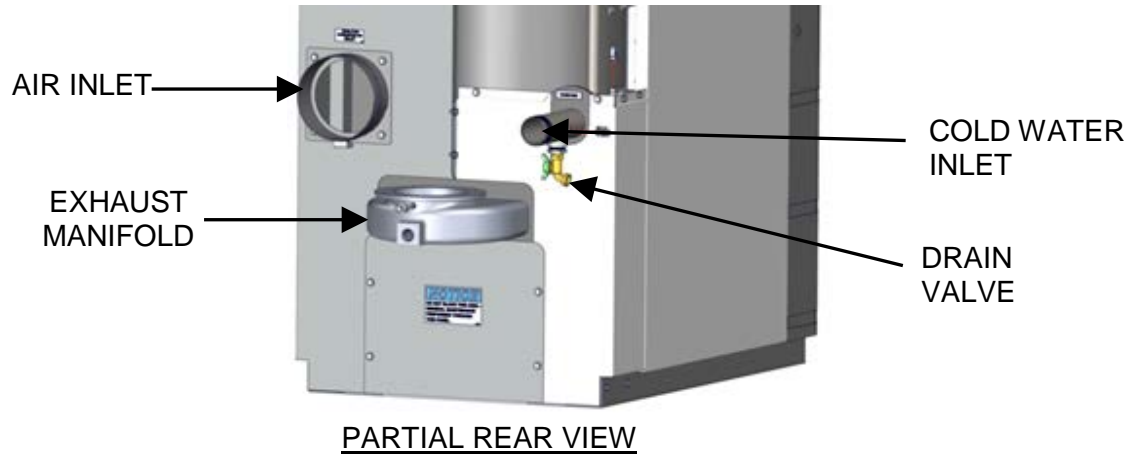

Figure 5-5. Hot Water Boiler Rear View Showing Air Inlet Location
12. At the rear of the unit, partially block the air inlet (Figure 5-5) with a plywood sheet or metal plate.